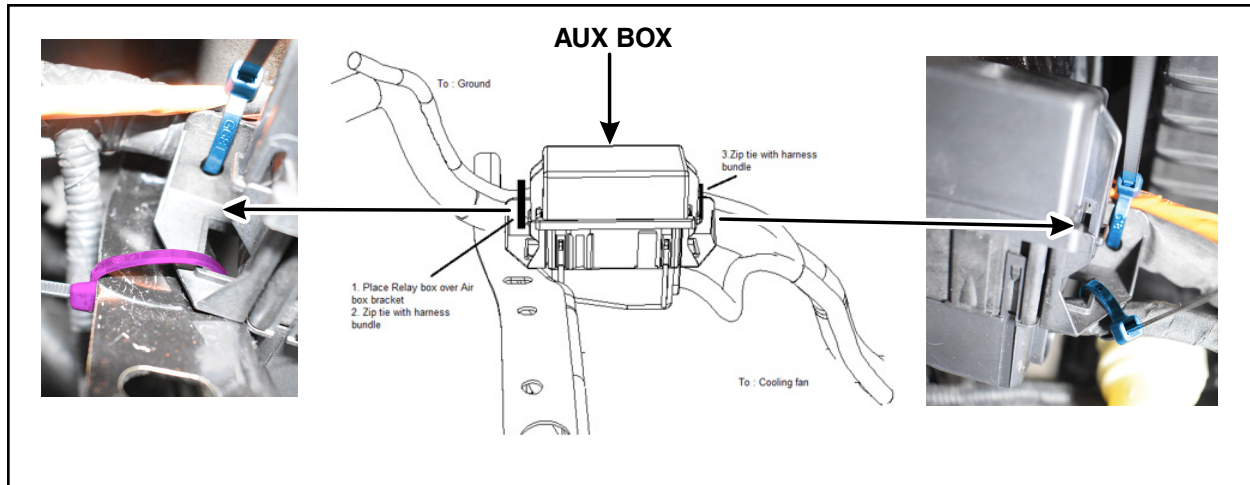

FIGURE 15
18. Secure the aux box to the vehicle over the air box bracket with 4 zip ties. See Figure 15.